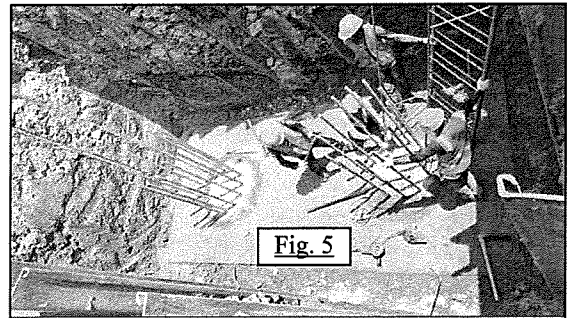

Fig. 5
5. Fig. 5 shows a pile-cap under a $(6' \times 6')$ pier of MRT-6. The pier supports a rail-deck weighing $(15 + 0.05R_0)$ k/ft and train weighing $(5 + 0.02R_0)$ k/ft for an equivalent span-length of $L_0 = (100 + 0.2R_0)$ ft.